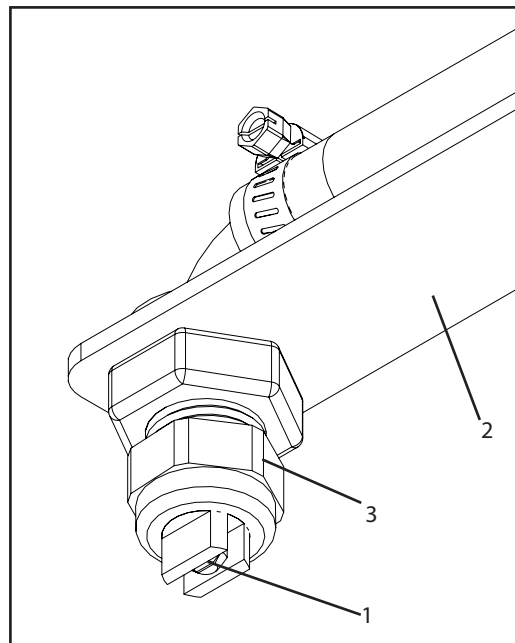

Figure 2: Boom Spray Tip
6. Test spray pattern with water on driveway or sidewalk. Each spray tip pattern should spread out to the right and left sides, rather than to the front and back of the boom. NOTE: If the spray patterns from the tips (1) (Figure 2) are hitting the sprayer, angle the tips until the spray pattern clears the sprayer. To adjust the spray tip angle, loosen spray tip cap nut (3). Align spray tip (1) and tighten cap nut (See Figure 2).
7. There should be some spray overlap between each tip and the spray patterns should be consistent. If the spray pattern is inconsistent, the tips (1) (Figure 2) may be worn out and need replaced, or there is a clog in the tip strainer (see the "Routine Maintenance" section).